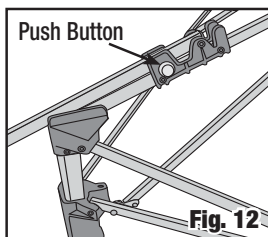

Fig. 12
- Press the push buttons (Fig. 12) to fold the lower roof poles to the storage position.